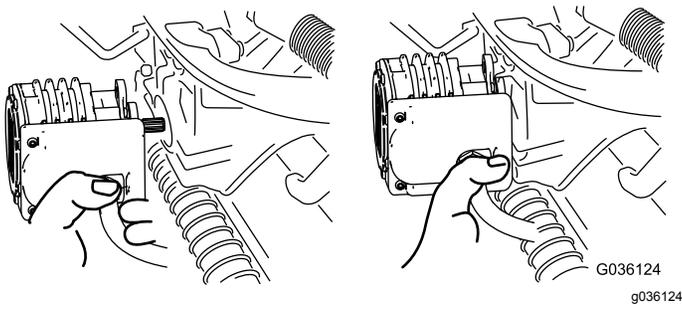

Figure 52
- Move the motor to the storage location on the front of the suspension arm (Figure 52).